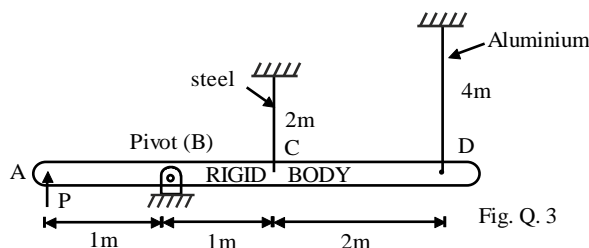

Fig. Q. 3
3. For the steel wire & aluminium wire of length 2m and 4m respectively shown in fig Q 3 ; 20